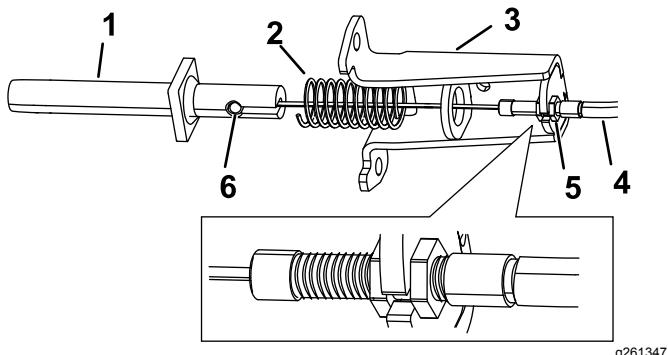

Figure 9
- A. Insert the brake cable through the brake mount and spring, and insert the barrel fitting into the slot of the brake-shaft pin (Figure 9).
- B. Insert the brake-shaft pin into the spring and then into the brake mount (Figure 9). Push in the pin to compress the spring, insert the
- C. Adjust the nuts on the brake cable so that only 2 threads show toward the cable (Figure 9).